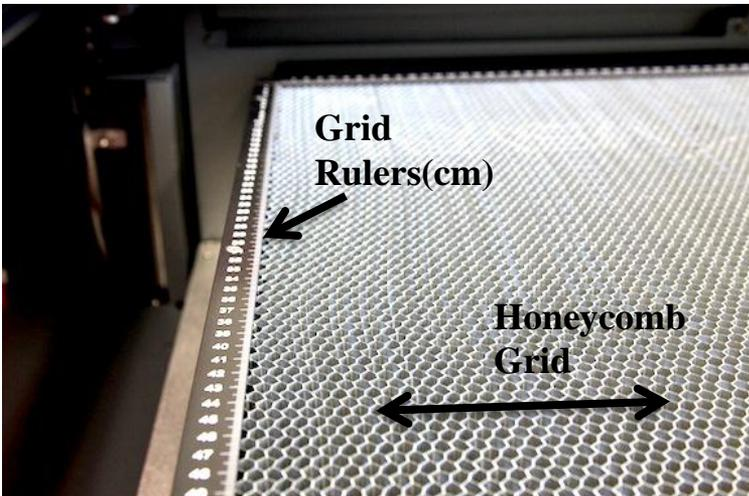

Figure 6: Vector Grid or HoneyComb Grid
4. Bed is fragile, so carefully place your items on the tray. **IF THERE IS SMALL DEBRIS, VACUUM HONEYCOMB GRID** (Figure 6).